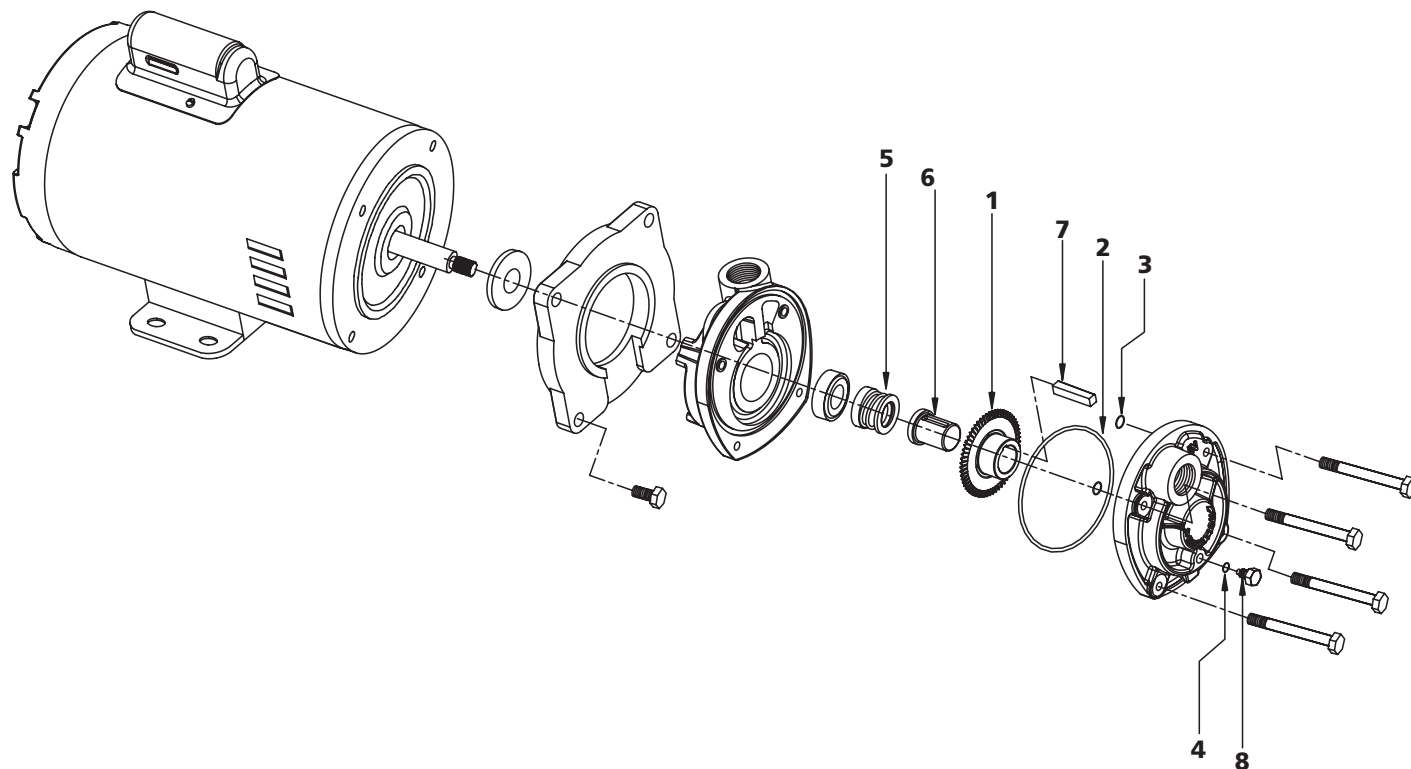

Figure 8 - Repair parts for illustration – For Standard Booster Models
1. Pump should be drained if subjected to freezing temperatures. A drain plug (Please refer figure 8, 9 & 10) is provided on the pump casing.
All Dayton pump seals require no adjustment at the time of the installation of the pump as they are installed and checked at the factory. Running the pump without water will result in rapid seal failure. After the pump has been in service for a long period of time, or if the pump has seen severe service on abrasive materials, it may be necessary to replace this seal (the seal may leak). Leakage can be detected by a dripping or flow of liquid from the area around the motor shaft sleeve (Please refer figure 8, 9 & 10).
1. Remove the four bolts that attach to front cover of the body. Then remove the cover and o-ring gasket (Please refer figure 8, 9 & 10).